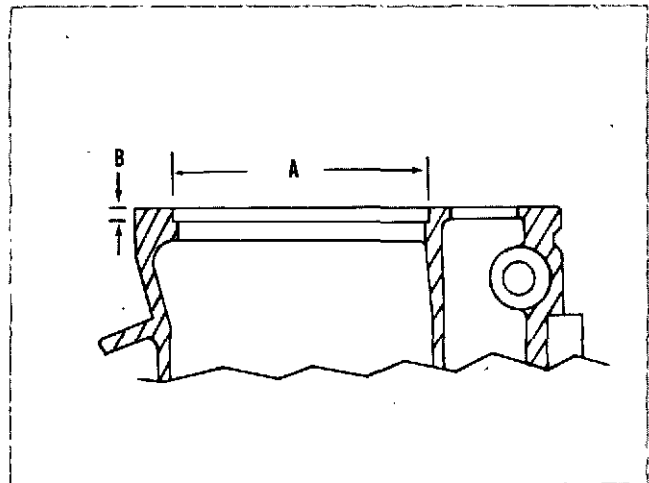

Fig. 1-1-5, V414207, Cylinder liner counterbore dimensions
1. Check upper liner counterbore diameter (Table 1-1-4) and remove burrs, dirt, etc., so liner will enter without distortion (Fig. 1-1-5).